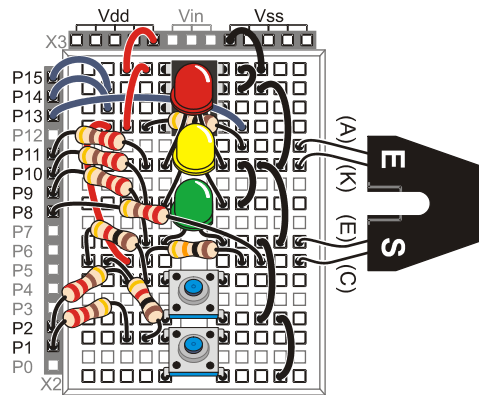

Figure 4-10
- (1) LED – Red
- (2) Pushbuttons
- ✓ Construct the circuit shown in Figure 4-9 and Figure 4-10. Leave the ADC circuit on your board for later use.